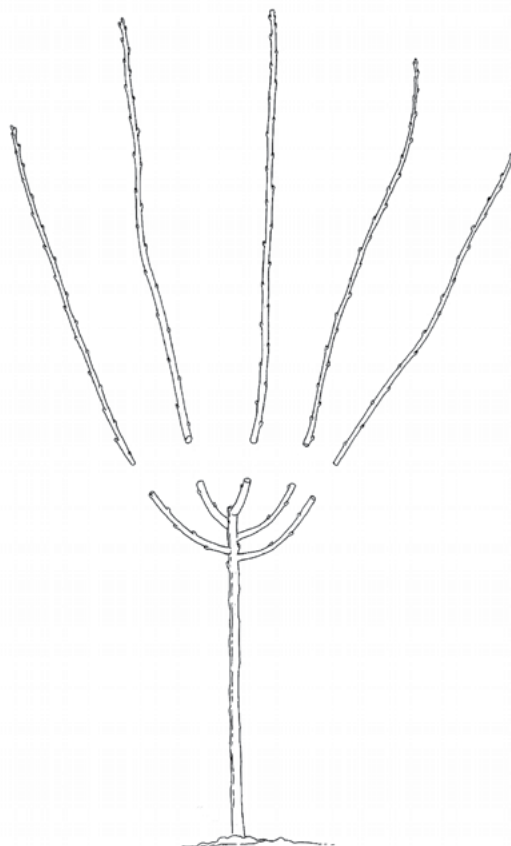

Figure 6
- Head all leaders to 2–5 inches in length (Figure 6).